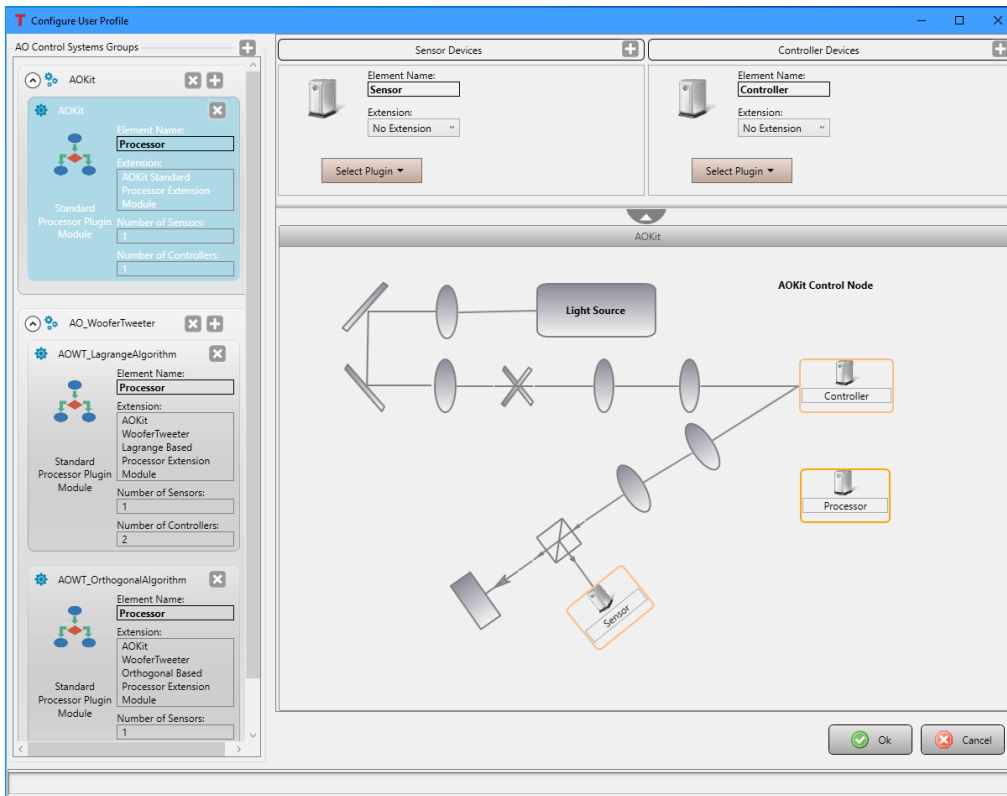

Figure 71 This window appears after clicking the Configure option within a highlighted User Profile.
3. To assign the devices to the control systems, click the **Configure** button within the highlighted User Profile. This will open the **Configure User Profile** window shown in Figure 71.